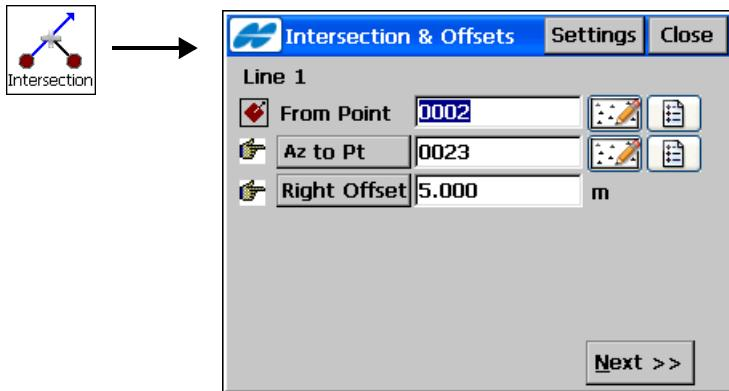
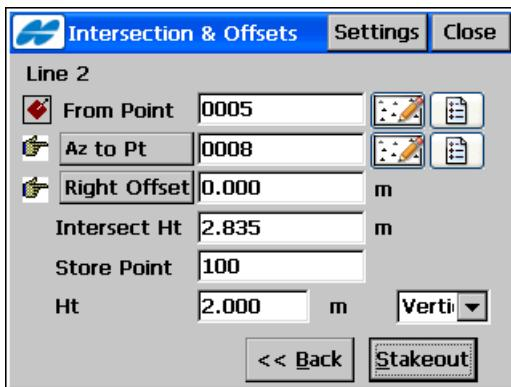

Figure 10-18. Intersection & Offsets – Line 1
Figure 10-19. Intersection & Offsets – Line 2
The **Intersections & Offsets** screen (Figure 10-18 on page 10-18) stakes out the intersection point of two lines parallel to two other lines at specified offsets. The first screen defines one line (Line 1) and the offset of the first parallel line. The second screen (Figure 10-19 on page 10-19) defines another line (Line 2) and the offset of the second parallel line. The intersection point of these two parallel lines defines the stakeout point.
- **Next** – opens the second **Intersections & Offsets** screen (Figure 10-19 on page 10-19).
The second screen contains the parameters of Line 2 (Figure 10-19 on page 10-19).